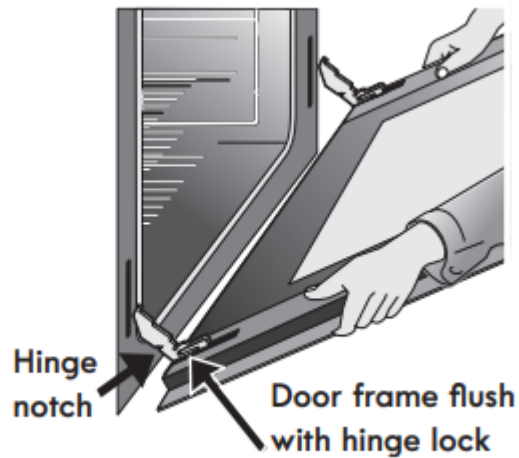

Figure 32: Remove door position
4. Pull the bottom of the door toward you while rotating the top of the door toward the appliance to completely disengage the hinge levers (Figure 32).